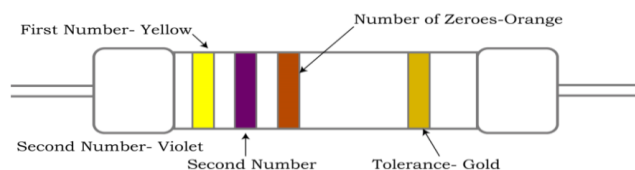

Fig. 3.8 Four-band Resistor Specification
Step 2. The first colour band of the resistor is considered the first numeric digit of the resistance value. Figure 3.8 illustrates the first band is yellow, so the first number is 3.